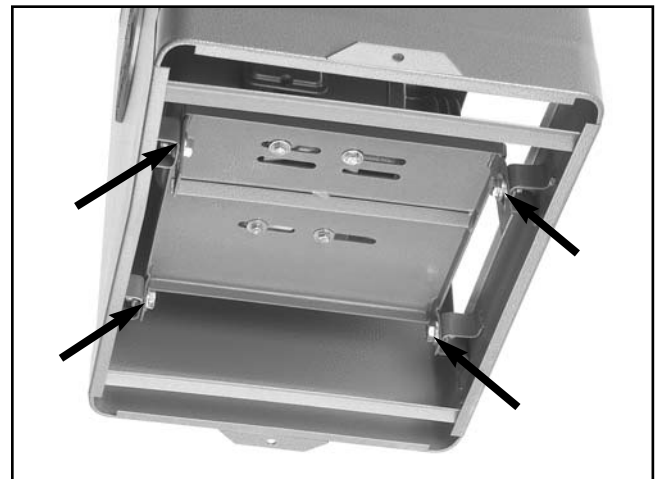

Figure 18. Motor adjustment bolts (shown underneath stand for clarity).
2. Loosen the motor adjustment bolts shown in **Figure 18**, and slide the motor up until you can attach the V-belts to the pulleys.